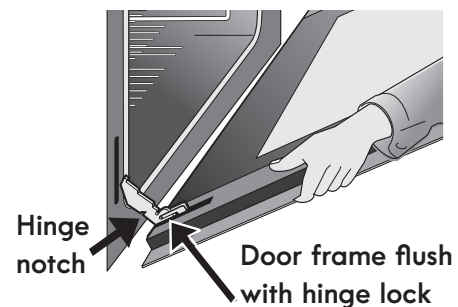

Figure 29: Remove (and replace) door
4. Pull the bottom of the door toward you while rotating the top of the door toward the appliance to completely disengage the hinge levers (Figure 29).
1. Firmly grasp both sides of oven door along the door sides. Do not use the oven door handle (Figure 29).